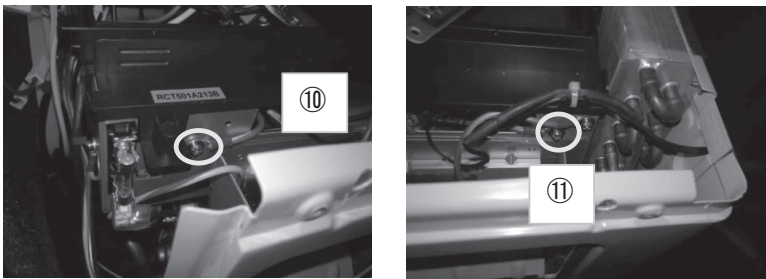

Fig.5 Earth cable of control box
- 11) Disconnect 2 earth cables on right side of control box. (Fig.5 ⑩、⑪)